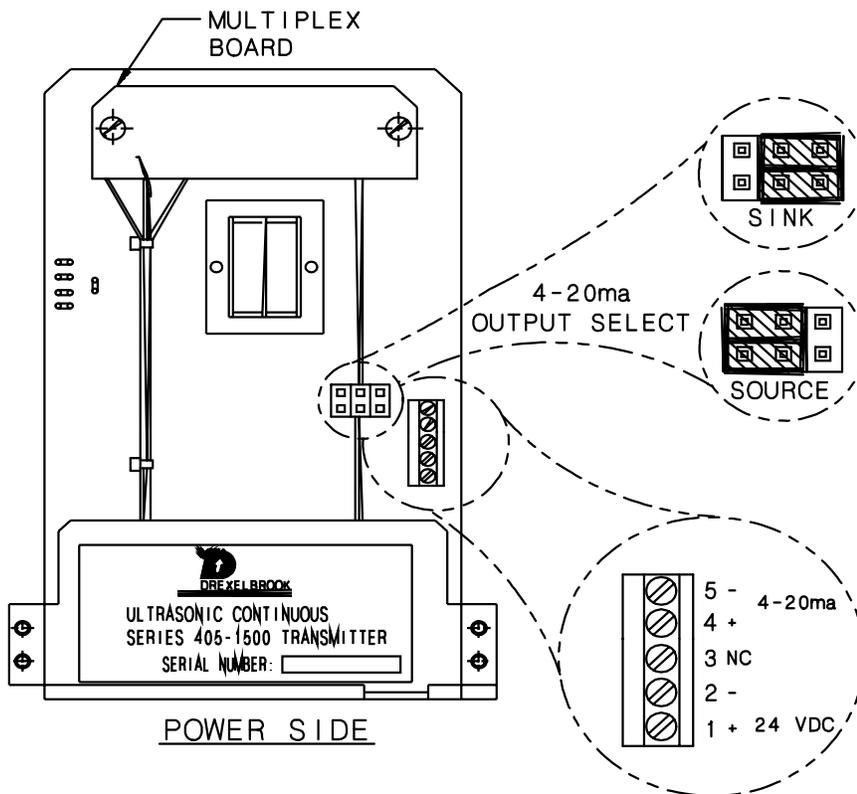

Figure 2-2
- Refer to *Figures 2-2 through 2-4* for the wiring diagrams of the 505-1500 transmitters.